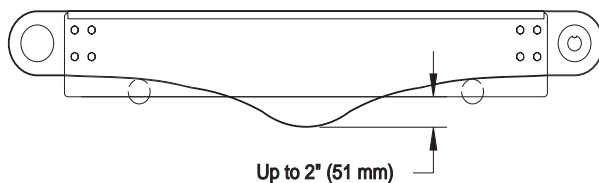

Figure 31
- Check belt sag by measuring from the bottom of conveyor frame (**Figure 31**). Belt sag should not exceed 2" (51 mm).